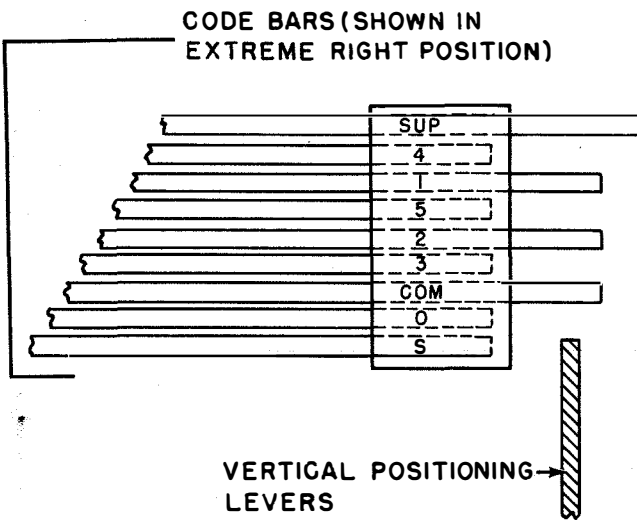
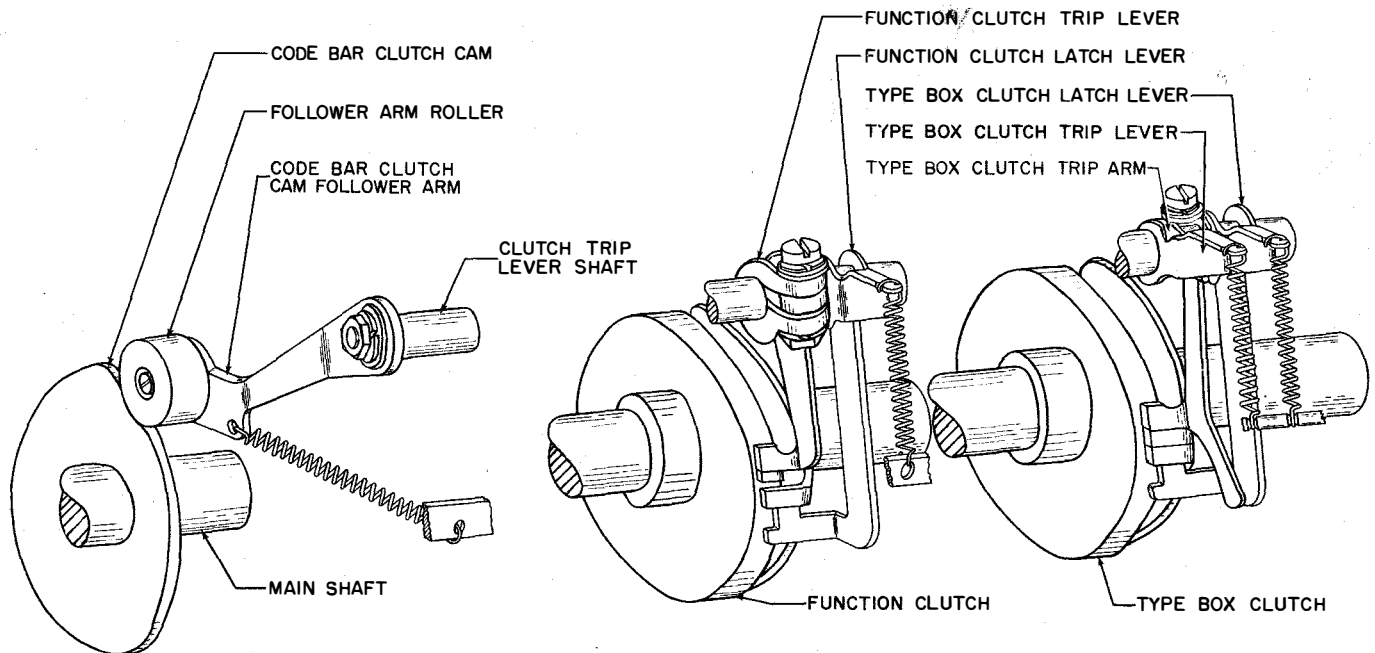
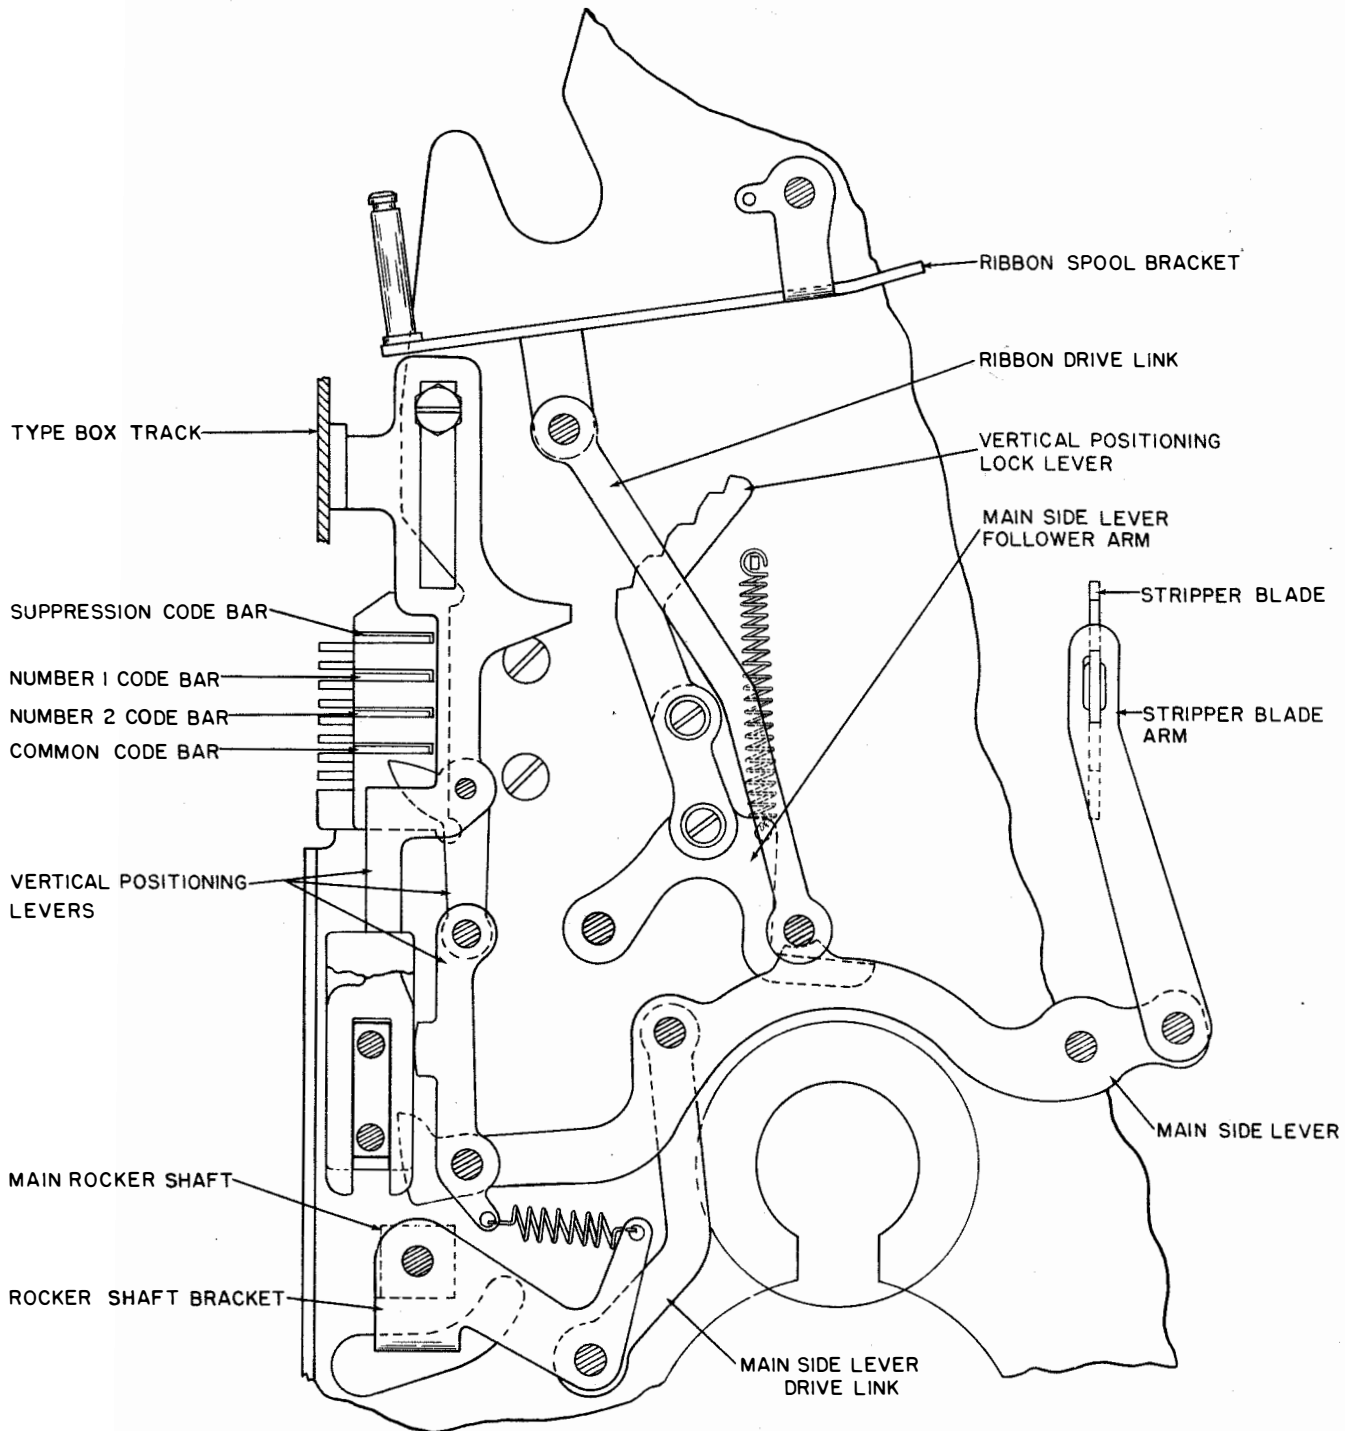
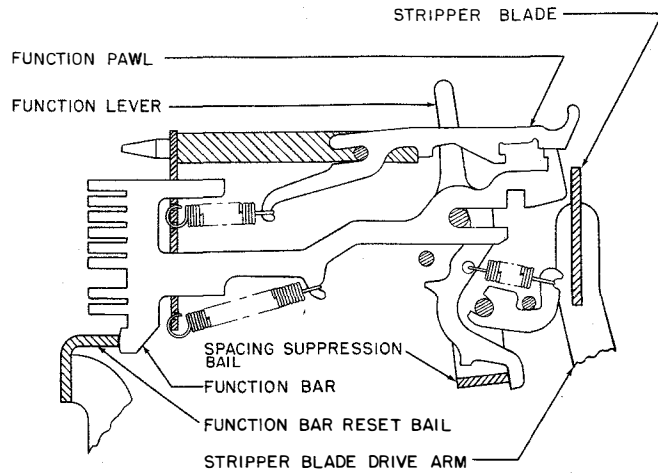

Figure 2-42. Code Bar Arrangement
Figure 2-45. Trip Mechanism For Function and Type Box Clutches
Figure 2-46. Right Side Mechanism
**Figure 2-59. Function Reset Bail Mechanism**
Three additional code bars bring the total number of code bars to nine. They are arranged from top to bottom as follows: suppression, number 4, number 1, number 5, number 2, number 3, common, automatic carriage return and line feed, and shift-unshift (figure 2-42). In the equipment as furnished the suppression code bar has no connection with a shifting mechanism. The automatic carriage return and line feed code bar and the shift-unshift code bar are actuated by mechanisms which will be discussed under "functions."
2. Four code bars (longer than the others), extend through the right code bar bracket and serve as stops for the right "knee action" vertical positioning levers. They are (from top to bottom), suppression, number 1, number 2, and common (figure 2-42). Notches are arranged in the left ends of the code bars so that the left side "knee action" vertical positioning levers are stopped, in each case, by the same code bar that blocks the right side levers. After all the code bars have been positioned by the code bar positioning mechanism, the code bar clutch cam follower arm and its roller, in traversing the sloping indent on the code bar clutch cam, rotates the clutch trip lever shaft. As the shaft turns, it first causes the function clutch trip lever to release the function clutch (figure 2-45) and then causes the type box clutch trip arm to engage its trip lever and release the type box clutch. When the type box clutch completes its revolution, it is disengaged by its trip lever and latch lever in the same manner as was the code bar clutch, described in paragraph 4.e.(1)(b) of this section. During its rotation, the type box clutch operates a drive link and a bracket to cause the main rocker shaft to oscillate. This in turn, through its left and right brackets and the main side lever drive links, extends the motion to the main side levers to operate the "knee action" vertical positioning levers (figure 2-46). These levers are driven upward until they strike a projecting code bar which causes them to buckle. The type box carriage track is mounted between the vertical positioning levers and its vertical motion is controlled by them. When the number 1 and number 2 code bars are toward the right (spacing), the common code bar is also toward the right where it blocks the vertical positioning levers. The top row of pallets in the type box are then in line for printing. When the number 1 code bar is toward the left (marking), and the number 2
clutch is tripped (paragraph 4.e.(2)(b)2. of this section, and figure 2-45), it rotates one-half of a revolution. During this time it extends motion to the code bar reset bail through the intervening cam and follower arm, follower arm extension, function rocker shaft, and reset bail drive links, to cause the reset bail to release the function bars momentarily (figure 2-59). As the spring tensioned function bars are released, they move forward to make contact with the code bars. If the code bars are positioned for a function, each lug on the function bar for that function will be opposite a slot in a code bar. This will permit the selected function bar to
tion cycle, a stripper blade (operated by the main side levers through the stripper blade arm, figure 2-46), rises to engage any selected function pawl and strip it from its function bar. Springs return the released function pawl and function lever to their original position (figure 2-16). It should be noted here that, to prevent printing during the function cycle, whenever a function selection occurs the type box is positioned such that the printing hammer will strike where there is no type pallet. The function clutch two-stop cam disk has indents at both stop positions. The function clutch latch lever follows this cam disk and is thereby held away from the clutch drum until one of the two lugs on the clutch shoe lever disk passes under the latch lever and is stopped by the function clutch trip lever. Due to its inertia, the two-stop clutch cam disk continues to turn until its lug makes contact with the lug on the clutch shoe lever. At this point the latch lever drops into the indent in the cam disk, and the clutch is held disengaged until the trip lever is again operated.